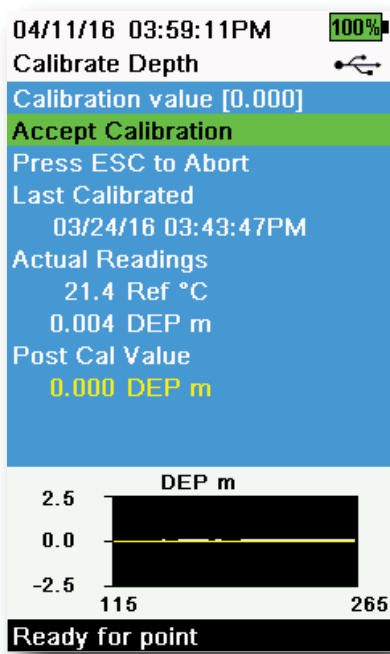

Figure 47 Calibrate Depth
3. Observe the actual measurement readings for stability (white line on graph shows no significant change for 40 seconds), then select **Accept Calibration** (Figure 47).